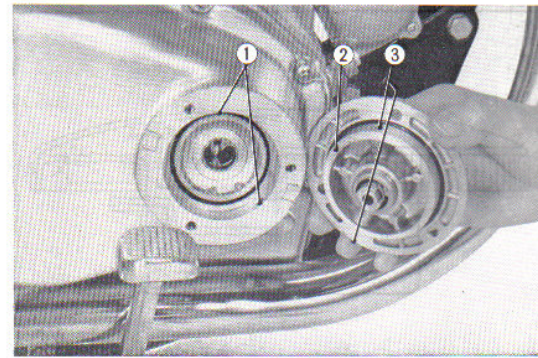

Fig. 6.18 Oil filter cover installation
① Air cleaner element
② Brush
(4) When reinstalling the oil filter cover, match the right crankcase cover oil filter opening and the filter cover oil opening. (Fig. 6.18)